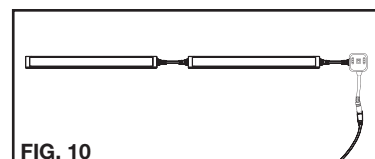

FIG. 10
**Continuous Configuration:** For layouts where preferred power source is on either side of cabinets/mounting surfaces. (See **FIG. 10**)